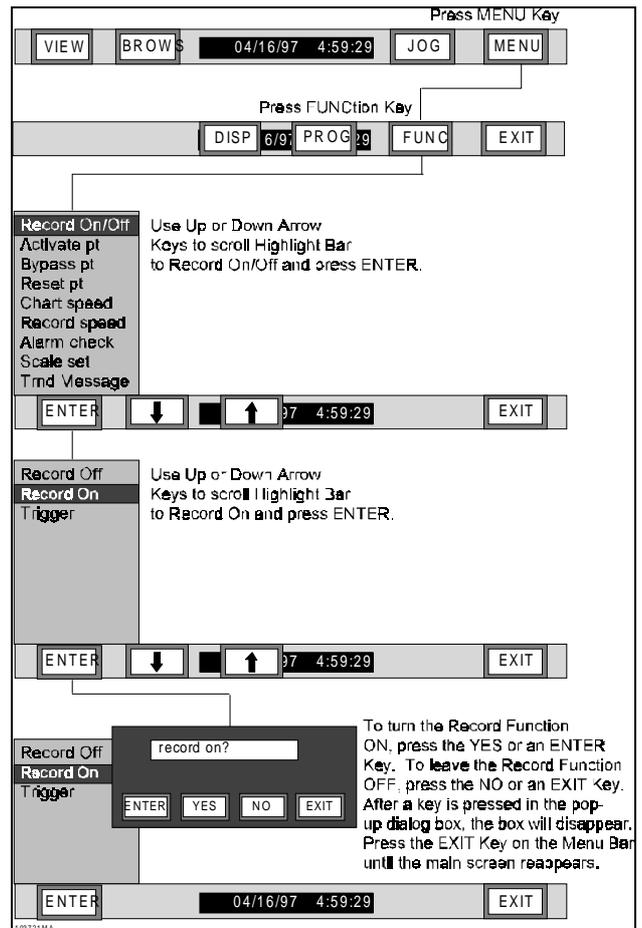

Figure 3-31 Turn Record Function to ON Flow Chart
2. Record On - Before recording data, the user must set up the record information as detailed in Chapter 4 - Record Setup. Parameters which need to be set include filename, whether to record Data, Alarms or both, the Sample Speed, which Channels to Log and Record Mode. Refer to Chapter 4 to set up Record Function. The Record On function will start recording to disk irrespective of the state of the Record Triggers provided the Record Setup has been done correctly. To begin recording following steps and Figure 3-31: